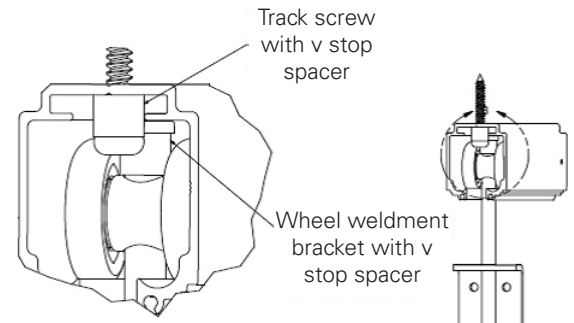

Figure 7: Pocket retained post top stop
4. Mark the corresponding location for the top stop. Push the grille all the way into the pocket and screw top stop into place as shown in **Figure 7**. It should be directly above the closed end of the V guide bracket.